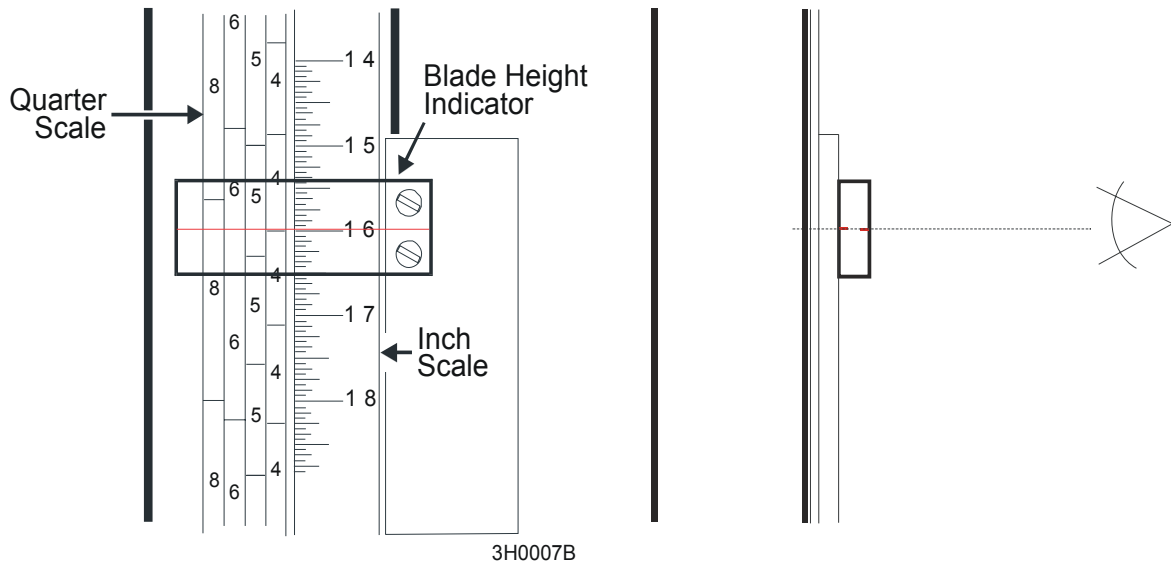

FIG. 2-15
**See Figure 2-15.** The blade height scale is attached to the carriage head frame. It includes: